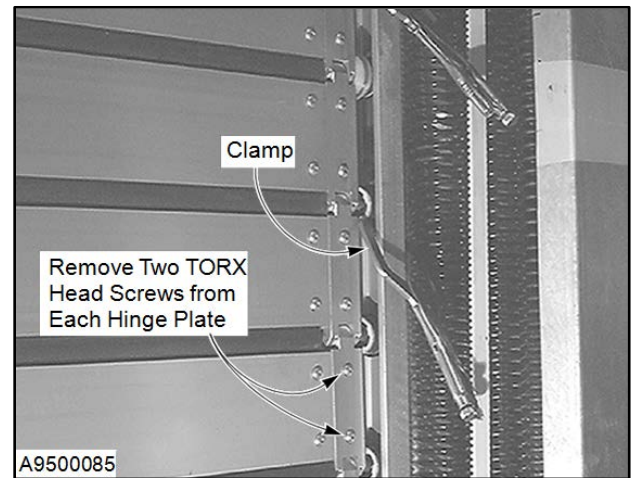

Figure 51
4. Once the door is positioned, set the brake and clamp both sides of the door to the vertical track. Position clamps along both edges of the door above and below the panel to be removed to prevent the remaining panels from moving. (See Figure 51.)